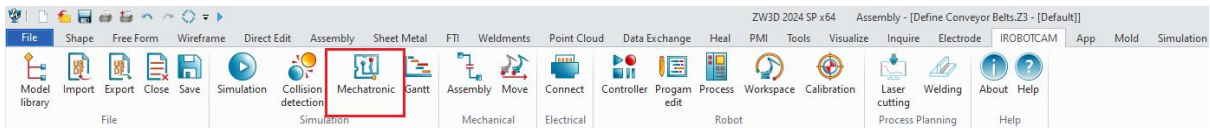

Figure 6-4: Mechatronic
- Go to the "IROBOTCAM" tab and click the "Mechatronic" button. (Figure 6-4)